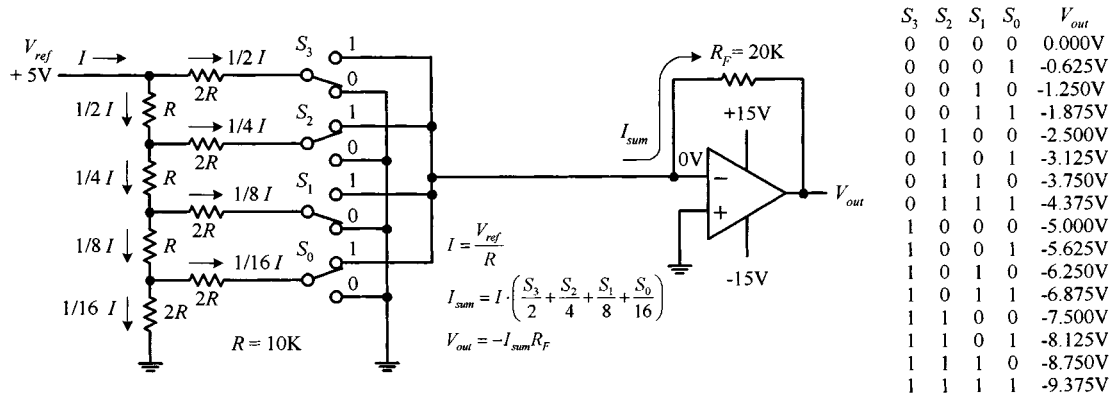

FIGURE H.7
that we need only two resistor values, R and $2R$. Figure H.7 shows a simple 4-bit $R/2R$ DAC. For now, assume that the switches are digitally controlled (in real DACs they are replaced with transistors).
The trick to understanding how the $R/2R$ ladder works is realizing that the current drawn through any one switch is always the same, no matter if it is thrown up or thrown down. If a switch is thrown down, current will flow through the switch into ground (0 V). If a switch is thrown up, current will flow toward virtual ground—located at the op amp's inverting input (recall that if the noninverting input of an op amp is set to 0 V, the op amp will make the inverting input 0 V, via negative feedback). Once you realize that the current through any given switch is always constant, you can figure that the total current (I) supplied by V_{ref} will be constant as well. Once you've got that, you figure out what fractions of the total current passes through each of the branches within the $R/2R$ network using simple circuit analysis. Figure H.7 shows that $1/2 I$ passes through S_3 (MSB switch), $1/4 I$ through S_2 , $1/8 I$ through S_1 , and $1/16 I$ through S_0 (LSB switch). If you're interested in how that was figured out, the following circuit reduction should help.
determined by $V_{\text{out}} = -I_{\text{sum}}R_F = -(156.25 \mu\text{A})(20 \text{ k}\Omega) = -3.125 \text{ V}$. The formulas and the table in Fig. H.7 show the other possible binary/analog combinations.